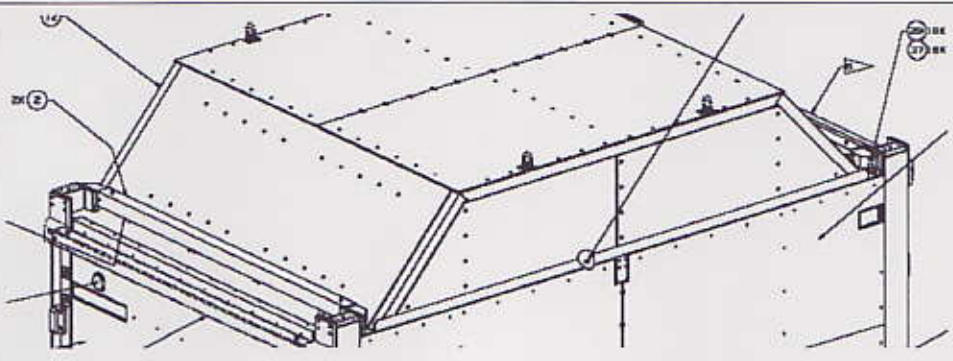
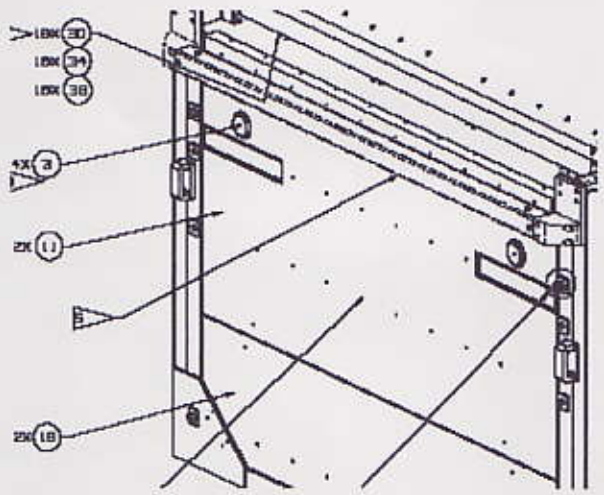

Figure 3
Figure 4
4. Remove two internal tie bars assemblies, SEG38117099, item 3 in Figure 3, along with their bolts, SDG38117090-801, item 29, and washers, NAS1587-8C, item 37. Place the fasteners in the marked bag for identification.
5. Remove the two Sliding Frame Cover Assembly, SEG38117068, item 11 in Figure 4, along with their bolts, NAS1351N4LB20, item 30 in Figure 3, flat washers, NAS1149E0432R, item 34, and lock spring washers, MS35338-139, item 38. Place the fasteners in the marked bag for identification.